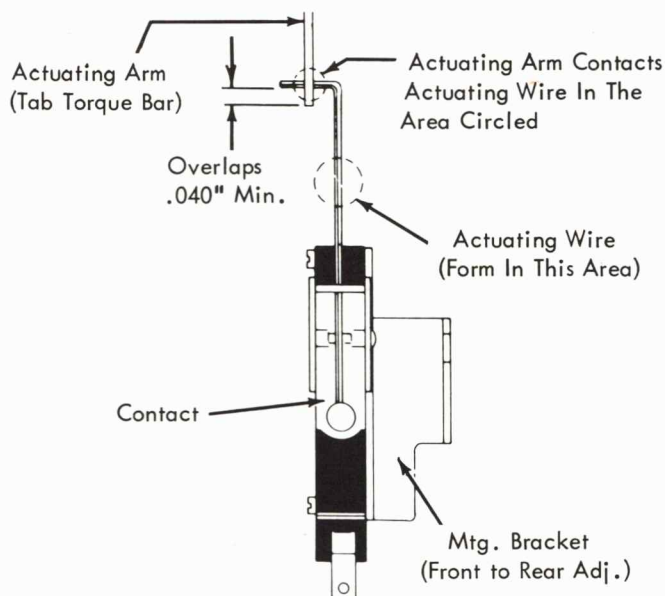

FIGURE 174. Interlock Contact (Early)
- Form (in circled area) the actuating wire (left or right) so that it contacts the actuating arm near the right angle bend (Fig. 174).
- With the tab interposer released and the Tab/Sp/BS cam on its high point, position the mounting bracket (front to rear) so that the actuating arm overlaps (.040" minimum) the actuating wire (Fig. 174). This insures that the actuating wire does not get above the actuating arm.